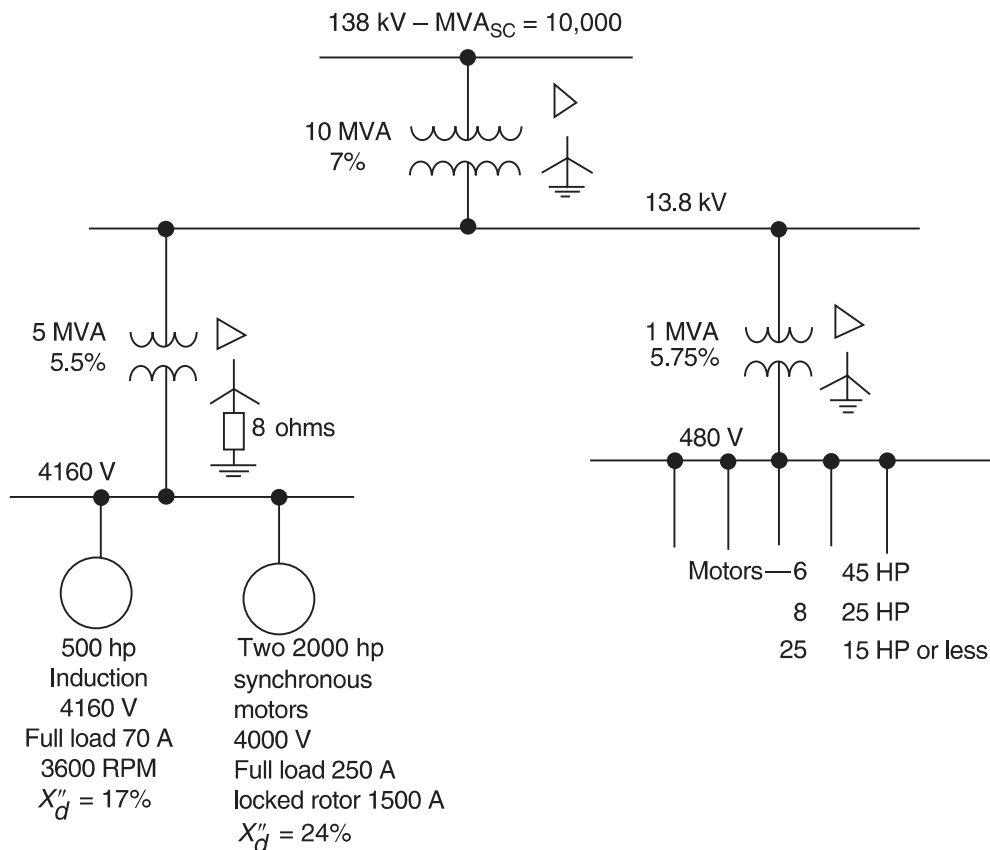

FIGURE P11.5
- 11.5** In the system shown in Figure P11.5: